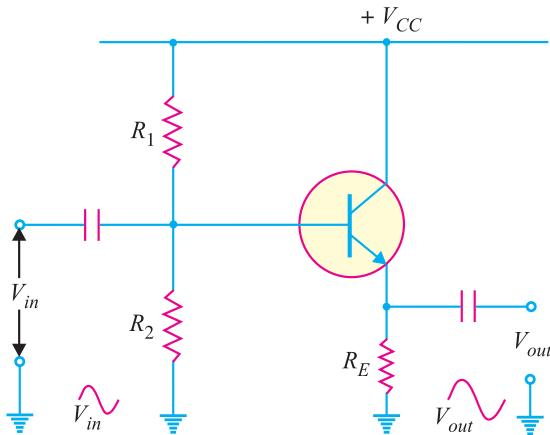

Fig. 13.12
**Circuit details.** Fig. 13.12 shows the circuit of an emitter follower. As you can see, it differs from the circuitry of a conventional  $CE$  amplifier by the absence of collector load and emitter bypass capacitor. The emitter resistance  $R_E$  itself acts as the load and a.c. output voltage ( $V_{out}$ ) is taken across  $R_E$ . The biasing is generally provided by voltage-divider method or by base resistor method. The following points are worth noting about the emitter follower :
The d.c. analysis of an emitter follower is made in the same way as the voltage divider bias circuit of a CE amplifier. Thus referring to Fig. 13.12 above, we have,